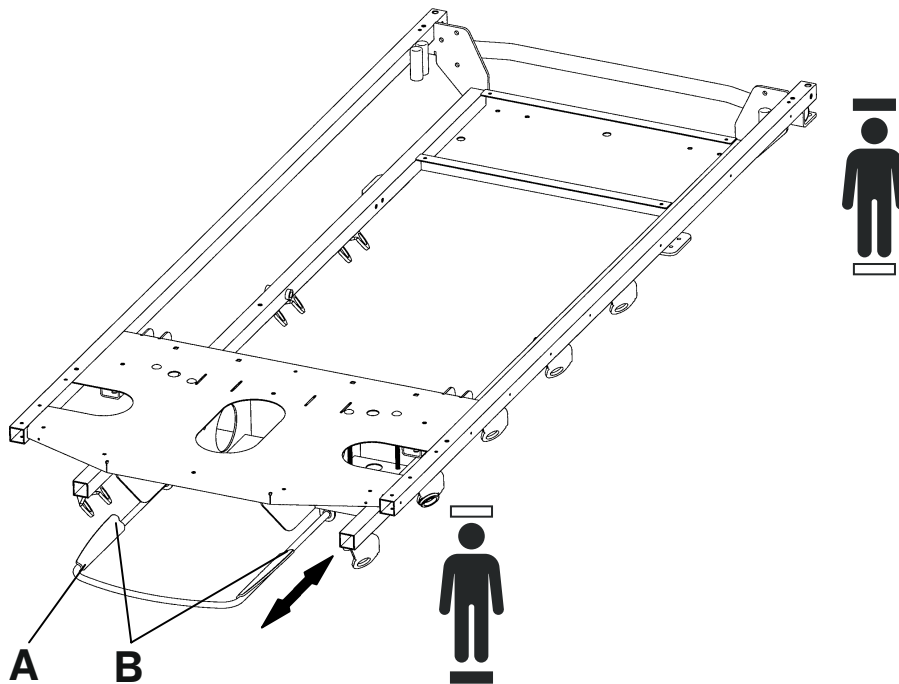

Figure 6 – Position the waste bin holder
2. Slide the waste bin holder (A) out from under the litter frame (Figure 6).
4. Secure the top of the basin on the "wings" (B) of the waste bin holder.